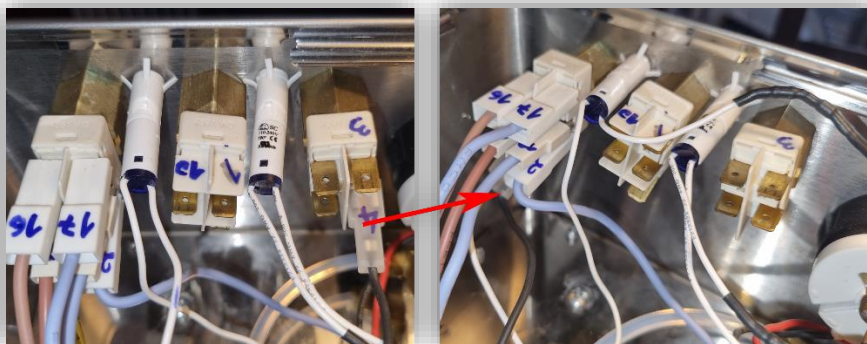

Fig. 2.8
- Unplug the remaining black wire from 3 (Brew Btn. right-down) and plug it to 1 position brown side (Power Btn. left-down)(fig. 2.8)